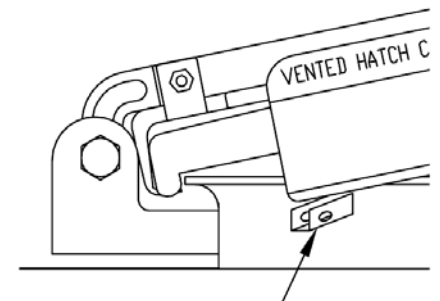

Figure 3
7. If there are hand wheel lugs, brackets, vents, vent plugs, etc. [Figure 3] on the hatch ring or the car roof preventing the hatch cover gasket from sealing properly, remove the hatch cover from the ring and remove the obstructions. Reapply the hatch cover as in Step 6 and tighten the hinge bolt and nut firmly with a wrench. **CAUTION: Over tightening causes hinge tabs to press against hinge tube.** Test the operation of the hatch cover by opening and closing.